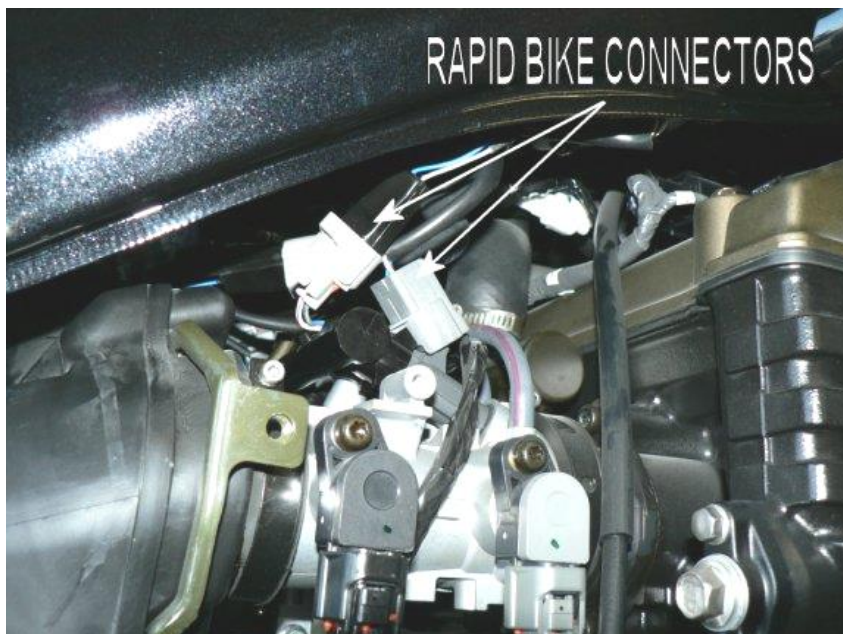

Fig.2
4. Connect the Rapid Bike connectors to the stock ones following this order (Fig.2):